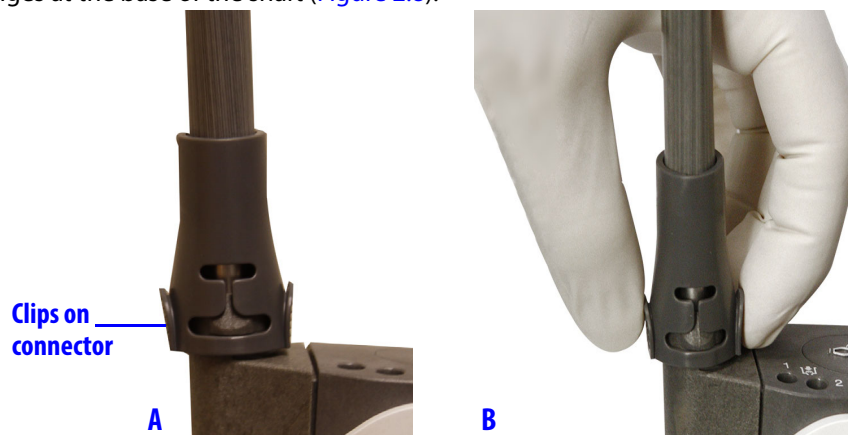

Figure 2.8 Press the clips on the connector
1. Press the clips on both sides of the sheath connector and pull up to disengage from the flanges at the base of the shaft (Figure 2.8).